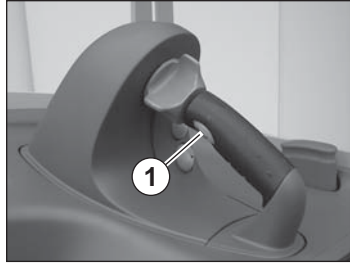

Fig. 18 Horn
Press the horn button (Fig. 18, ①) to warn other people, especially in the following situations: